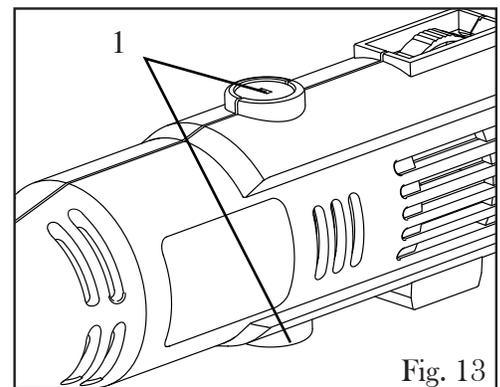

Fig. 13
CARBON BRUSHES INSPECTION AND REPLACEMENT (Fig. 13 & 14)
2. The carbon brush caps are located on the top and bottom of the rotary tool (Fig. 13 - 1). To access the brushes, unscrew and remove the two brush caps using the end of the wrench included with your tool kit.